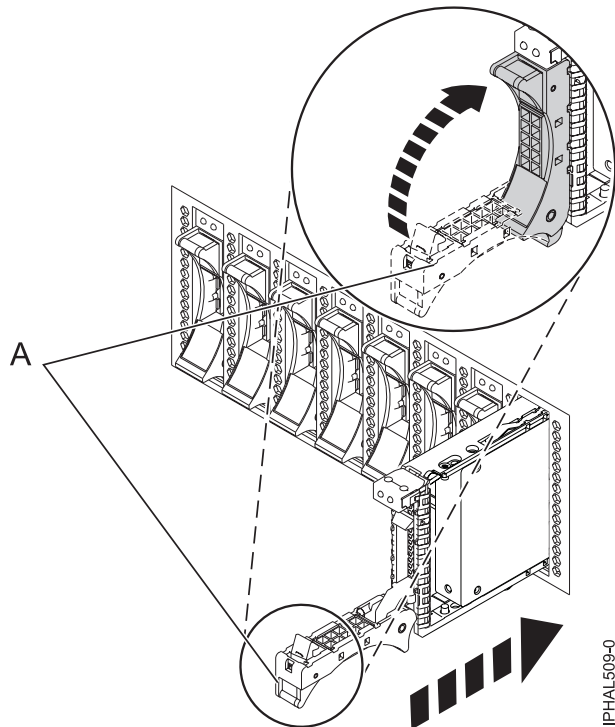

Figure 6. Installing the drive in the system
7. When the identify LED flashes, slide the drive all the way into the system or an expansion unit, and push the drive handle (A) in until it locks. See Figure 6 showing installing a drive in the system.